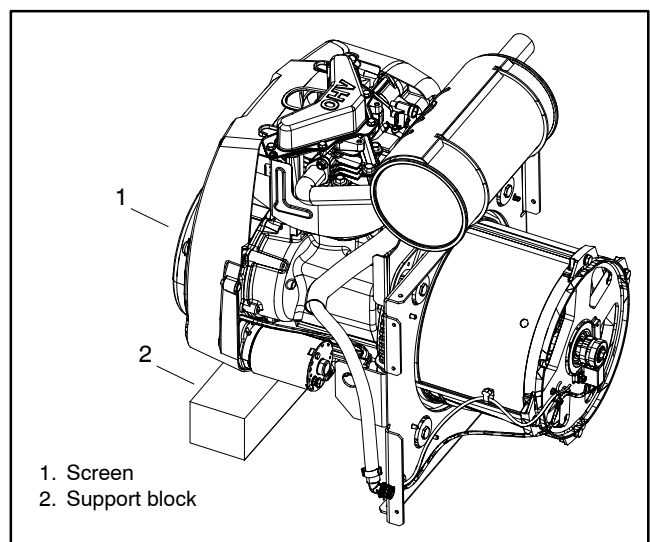

Figure 6-7 Engine and Alternator Assembly
22. Either lay the assembly on its side and add a block under the engine for support, or remove the screen from the top of the engine blower housing and turn the assembly over to rest on the blower housing. See Figure 6-7.